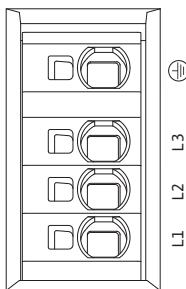

Fig. 31: Power terminals (mains connection terminals)
- Power terminals (mains connection terminals) (Fig. 31)